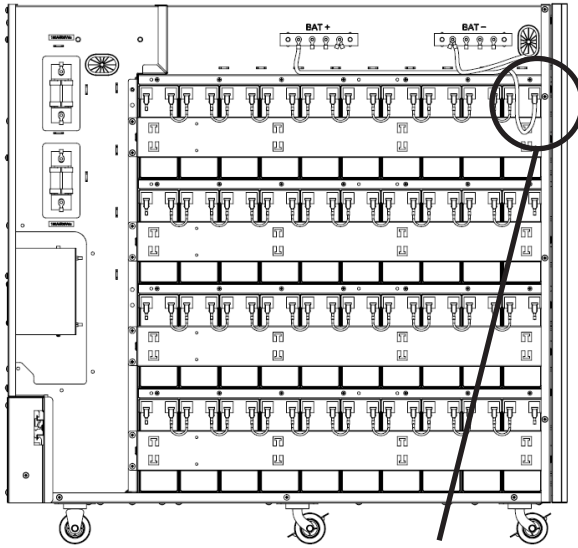

Figure 5-22A
33. Connect group 4 battery 1+ to + battery bus bar (BAT +) (Figure 5-22A).